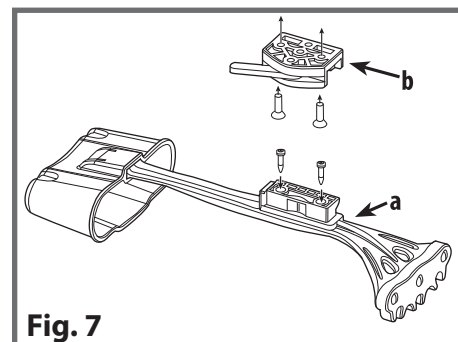

Fig. 7
1. Screw the quiver mount into the quiver with quiver screws use a screw-driver (not included). (Fig. 7)